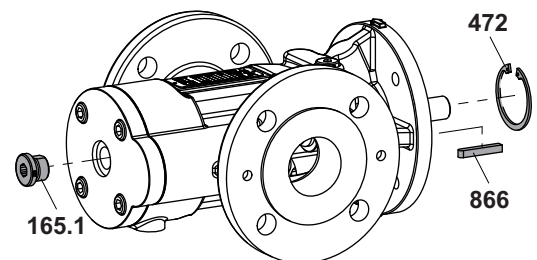

Fig. 17
8. Mount the screw plug 165.1, circlip 472 and feather key 866, see Fig. 17.